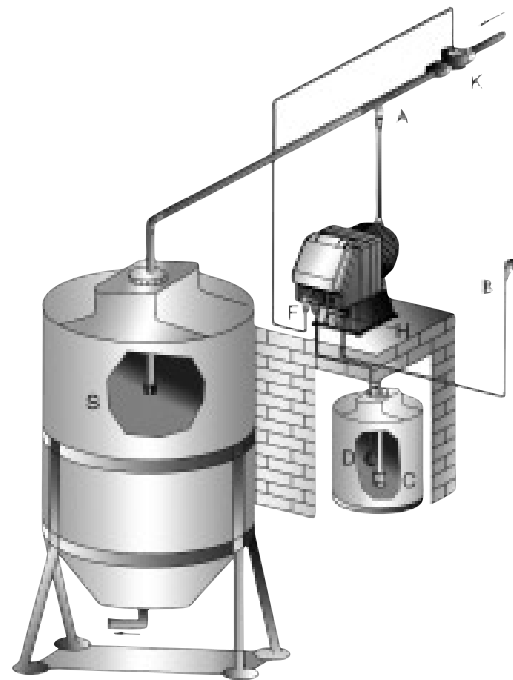

Fig. 12
- c. Locate the pump in position as shown in fig. 5 taking into account that it can be located over or under the liquid level within a maximum difference of 2 meters. The injection point must always be located higher than the liquid being injected. Do not install the pump directly on the tank as some additives produce vapour which may damage the equipment. For correct installation see fig.12. If the plant being treated operates at atmospheric pressure (free discharge additive) and the additive tank must be placed higher than the injection point (Fig. 6), check periodically that the injection valve is operating correctly, as excessive wear could cause additive injection by liquid loss (even when the plant is not operating). If the problem persists, insert a correctly calibrated **counter pressure valve C** between the dosing pump and the injection point (Fig. 6). For liquids that give off aggressive exhalations, do not install the pump over the tank unless the tank is hermetically sealed.
(fig.12)